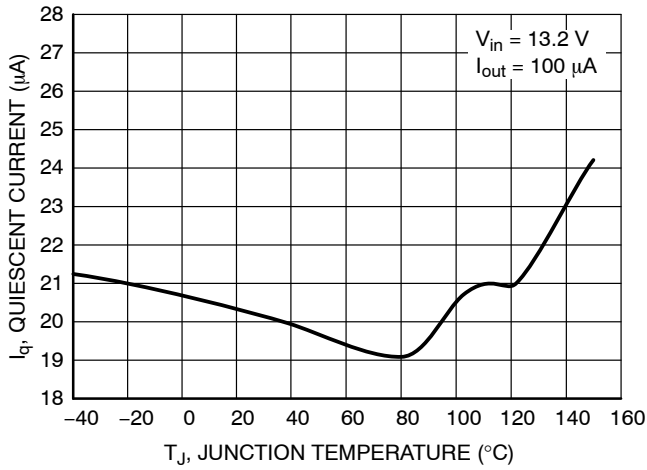
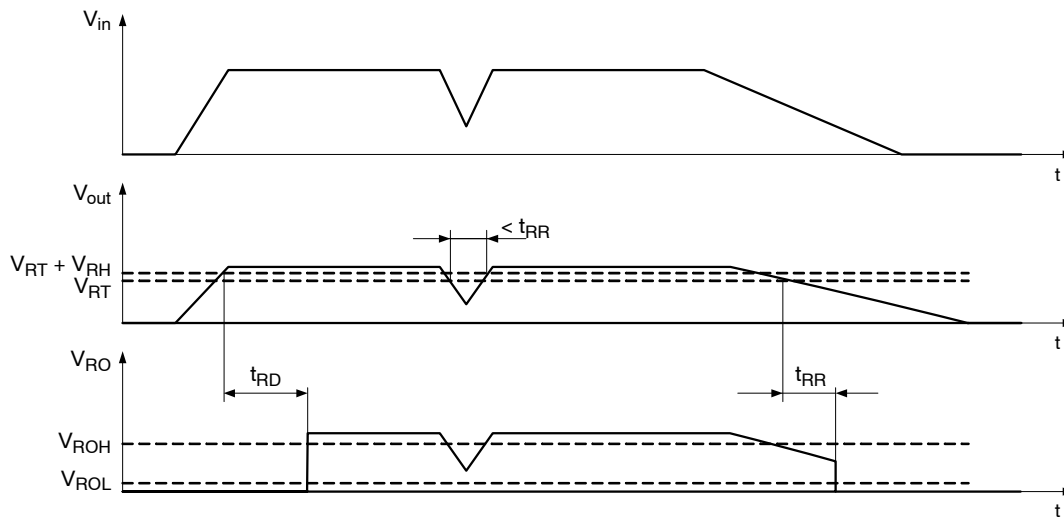

Figure 4. Quiescent Current vs. Temperature
Figure 21. Reset Function and Timing Diagram
The NCV8770 regulator is self-protected with internal thermal shutdown and internal current limit. Typical characteristics are shown in Figure 4 to Figure 21.
A reset signal is provided on the Reset Output (RO) pin to provide feedback to the microprocessor of an out of regulation condition. The timing diagram of reset function is shown in Figure 21. This is in the form of a logic signal on RO. Output voltage conditions below the RESET threshold cause RO to go low. The RO integrity is maintained down to $V_{out} = 1.0$ V. For 5 V voltage option, the Reset Output (RO) circuitry includes internal pull-up (30 k Ω) connected to the output (V_{out}). No external pull-up is necessary.